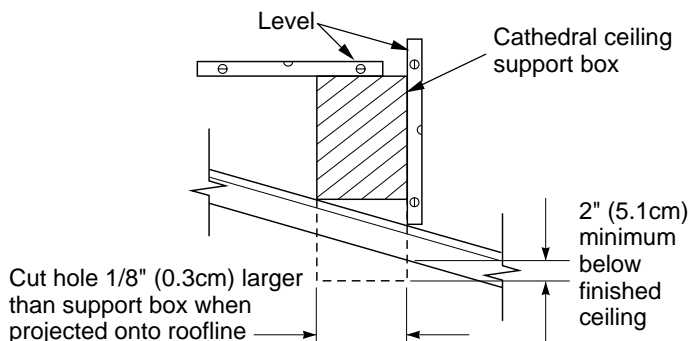

Figure 26 - Cathedral Ceiling Support Box Installation
2. Cut the hole 1/8" (0.3cm) larger than the support box outline (see Figure 26).
3. Lower the support box through the hole in the roof until the bottom of the box extends at least 2" (5.1cm) below the ceiling (see Figure 26). Align the support box vertically and horizontally using a level. Temporarily tack the support box in place through the inside walls and into the roof sheathing.